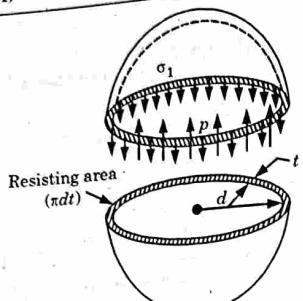

Fig. 5.21.1.
1. Fig. 5.21.1 shows a thin spherical shell of internal diameter d and thickness t and subjected to an internal fluid pressure p .